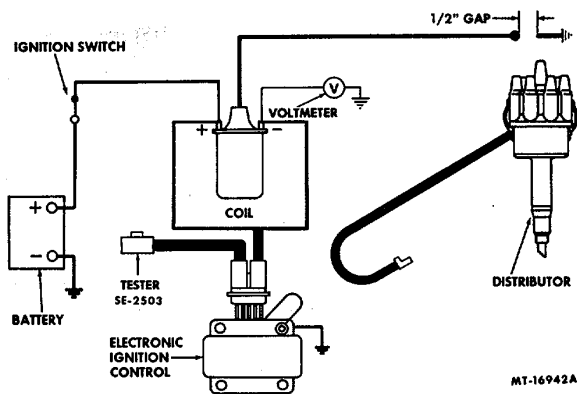

Fig. 7. Sensor and Sensor Wiring Test
7. High tension cable should be disconnected from distributor cap center tower. Disconnect distributor sensor wiring connector from electronic ignition control and plug tester (SE-2503) into ignition control. Using insulated pliers, hold high tension cable to create about 12.7 mm (1/2") gap between cable terminal and engine (see Fig. 7). Turn ignition switch "ON." Press tab on tester and observe for spark between cable terminal and engine.